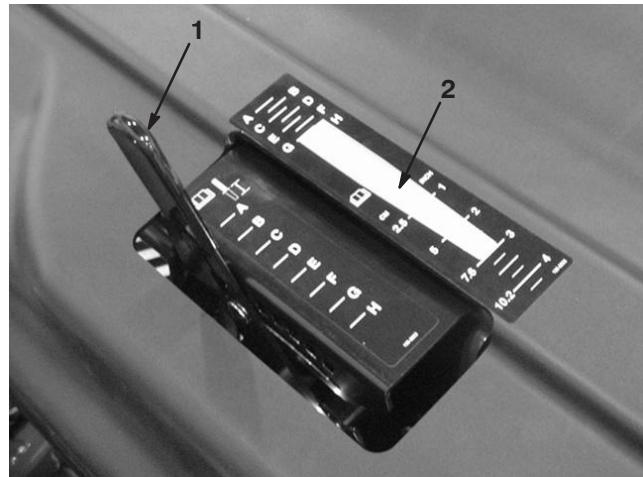

Figure 28
- Lay the tine on the tine depth decal (Fig. 28) with one end lined up with the desired depth of aeration (see the tine overlay on the decal).